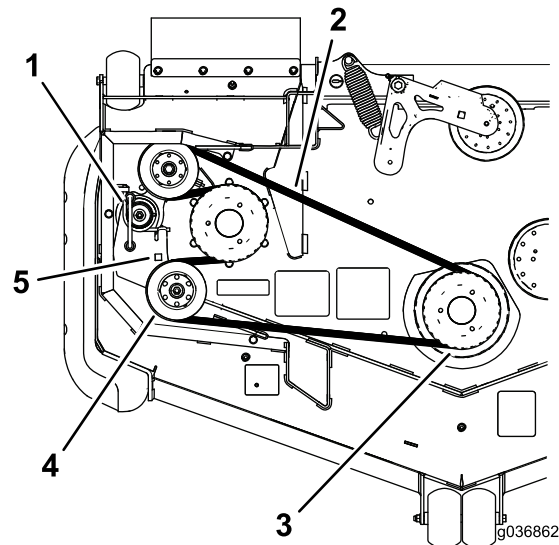

Figure 96
7. Use a ratchet in the square hole in the idler arm to remove tension on the idler spring (Figure 96).
8. Remove the belt from the mower deck pulley (Figure 96).
9. Remove the belt from the remaining pulleys (Figure 96).
- Using the ratchet in the square hole, remove the tension on the spring, and guide the new belt around the idler pulley (Figure 96).